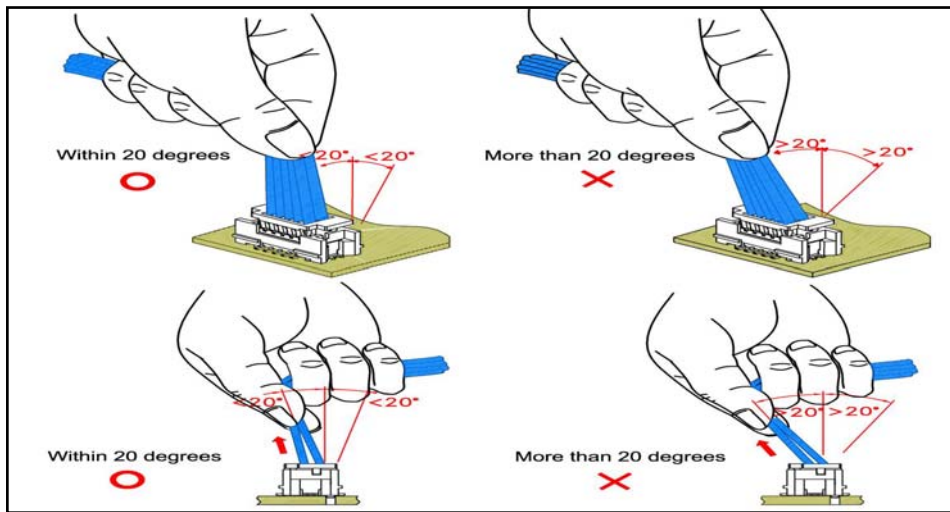

figure 4.2
- 4.2 Even in the case of unmating on mating axis, the same action as that of unmating in any angles may generate in condition that several tips of wires are held(wires aren't held in a bundle). In unmating the connector, be sure to hold the wires in a bundle within 20 degrees to the mating axis. (see figure 4.2) 甚至在連接器嵌入軸上施行拔除動作時，若不依照適當角度而任意拔除，會使線材前端承受極大的拉力(在線材未捆綁成束的狀況下)。在拔除連接器時，務必先握住線材成束後，並與連接器保持同軸，線材折彎角度要在同軸角度的 20 度內進行。